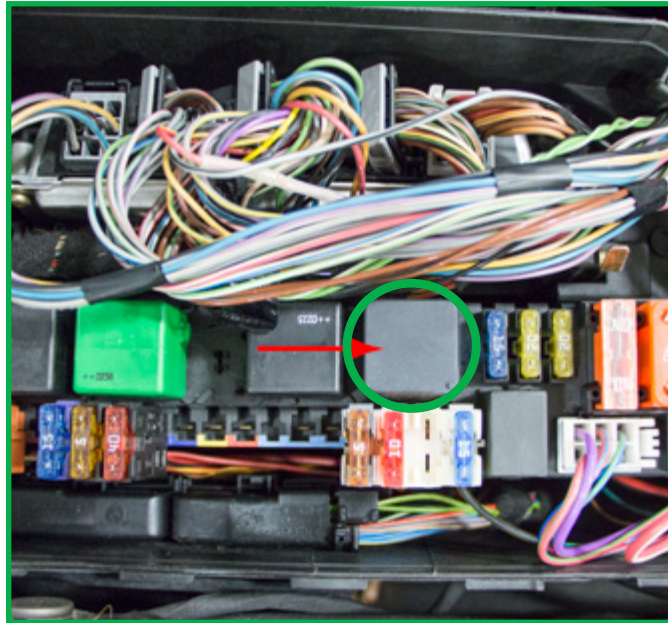

FIGURE 5
2. Relay located on the right side of the vehicle in the engine compartment. (Figure 5)